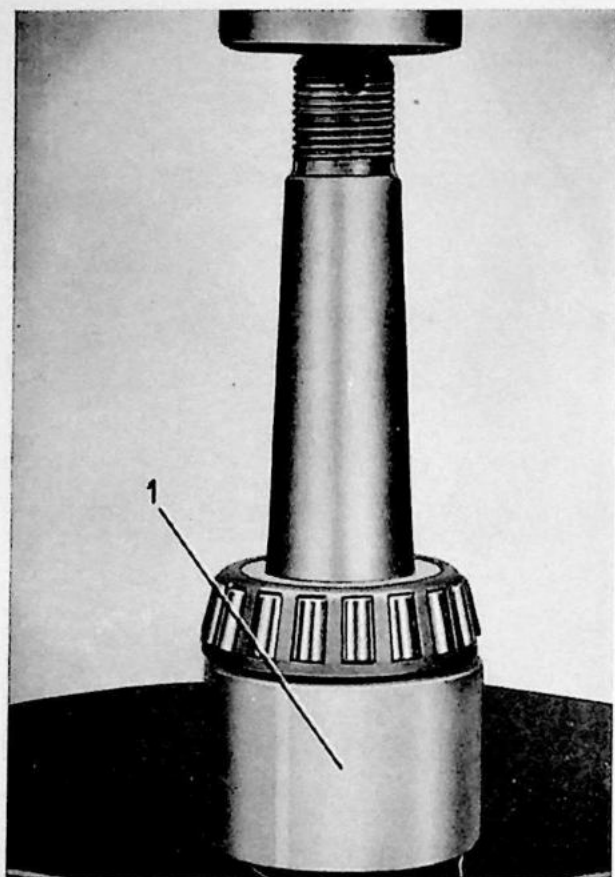

Fig. 9. Removing drive shaft bearing.
3. Press off the bearing, see fig. 9 and then fit the new one (concerning SVO tool numbers